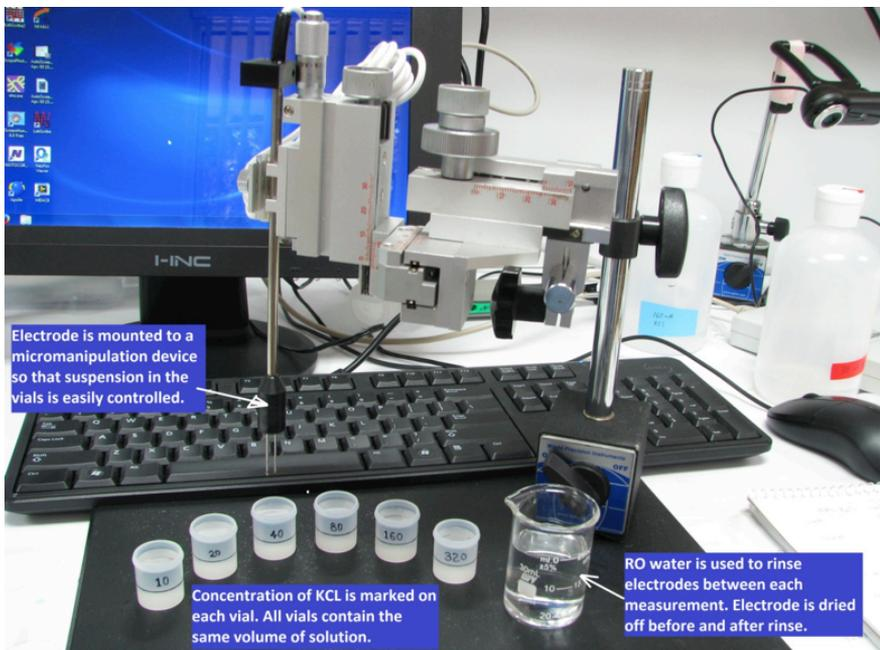

Fig. 34 — Setup for performance verification using concentrations of KCL.
5. Mount the electrode into a suitable holding device that will allow repeatable vertical positioning of the tip in the test vials. An economy micro-manipulator mounted to a magnetic stand with the X-axis oriented vertically works great for this purpose. A picture of the setup is shown on the next page (Fig. 34).